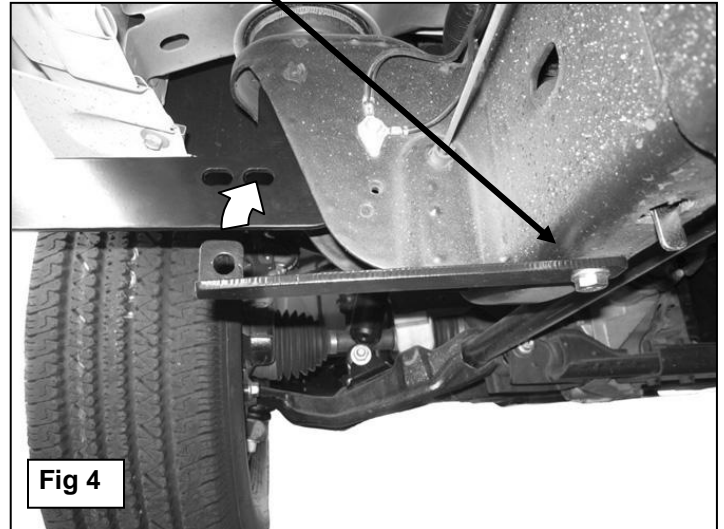

Fig 4
Note that the Front Support Bracket will not reach up to the Mounting Bracket, **(Figure 4)**. Tighten the Support Bracket to the Nut Plate in the frame. Carefully push up on the Support Bracket until it reaches the inside hole in the Mounting Bracket, **(Figure 5)**. Bolt the Support Bracket to the hole in the Mounting Bracket with (1) 10mm x 30mm Hex Bolt, (2) 10mm Flat Washers, (1) 10mm Lock Washer and (1) 10mm Hex Nut, **(Figure 6)**. Do not tighten at this time.